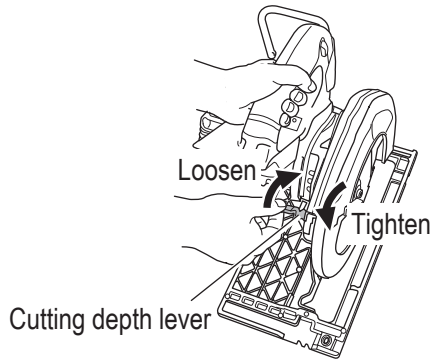
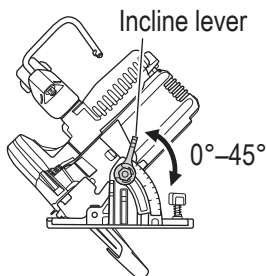

Fig. 18
Fig. 19
1. Adjusting the cutting depth (Fig. 18)
As shown in **Fig. 19** by losing the incline lever on the bevel scale, the saw blade may be inclined to an angle of 45° in relation to the base.
2. Check if the levers are tightened (**Fig. 18, Fig. 19** on pages 64–65)